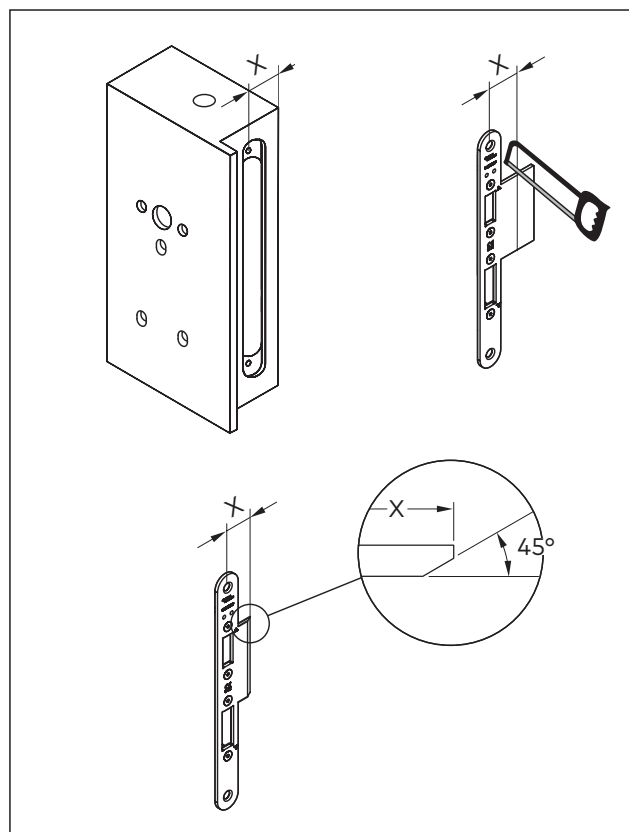

Fig. 35 Dimensions of the adjustments
1. Adjust the forend (Fig. 35).